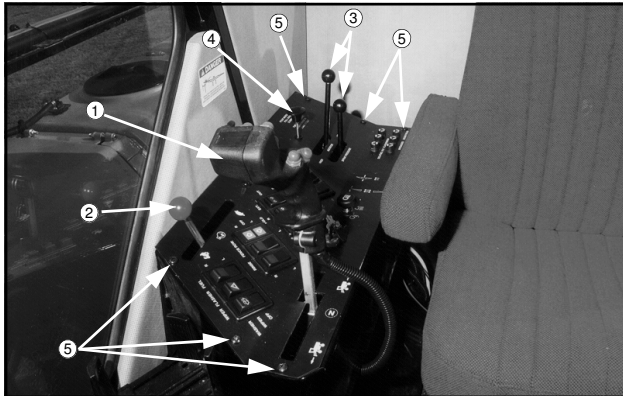

FIG 71-1
To access the circuit breakers remove the hydrostatic handle (fig. 71-1, item 1), engine throt-
tle knob (fig. 71-1, item 2), VFC lever knobs (fig. 8.36, item 3), four wheel drive knob (fig. 71-1, item 4), and panel screws (fig. 71-1, item 5). The circuit breakers are located toward the rear of the console. If a circuit breaker does not reset and continues to trip, determine the cause and correct it.